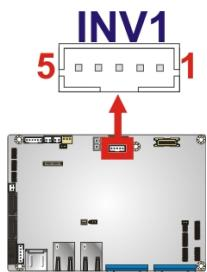

Figure 3-8: Backlight Inverter Connector
**CN Location:** See Figure 3-8